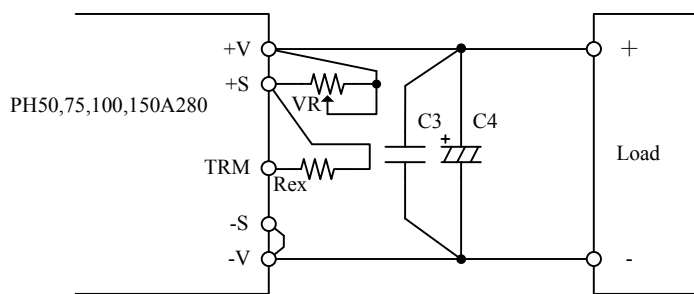

Fig.6-11 Example of Connecting External Resistor (To adjust output voltage for whole range)
Output voltage can be adjusted within specifications of output voltage adjustment range if resistance values of external resistor (Rex) as follows and external variable resistor (VR) are connected like a Fig. 6-11. Take note that output voltage do not become out of specifications when output voltage is adjusted.